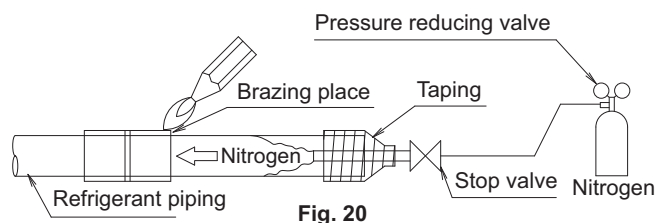

Fig. 20
- \* Before brazing refrigerant piping, have nitrogen flow through the refrigerant piping and substitute air with nitrogen. Then, carry out brazing (NOTE 2). (Refer to Fig. 20) After all the brazing works are finished, carry out flare connection with the indoor unit.